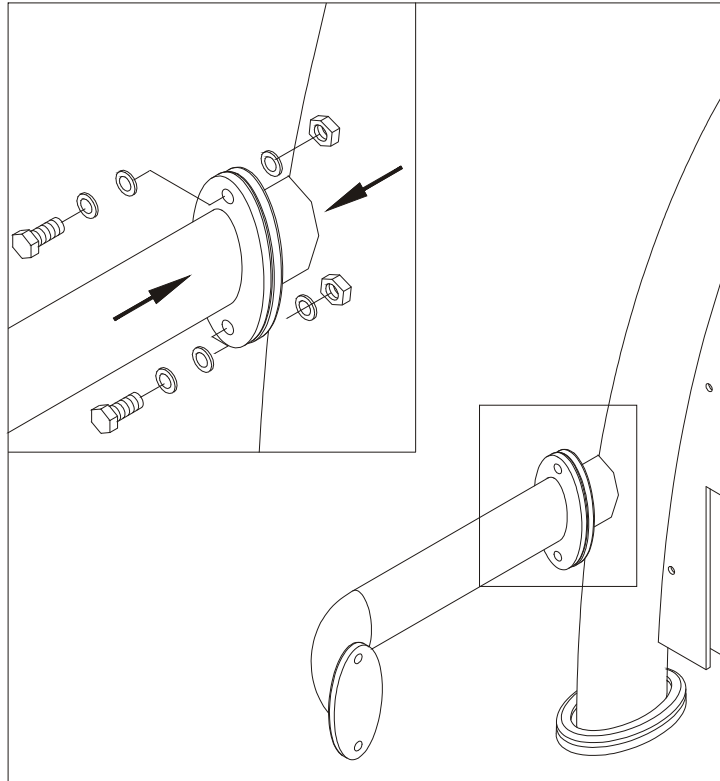

Fig.2
4. Hold the frame during assembly and tighten the connection host with the screws provided. (See Fig. 2)